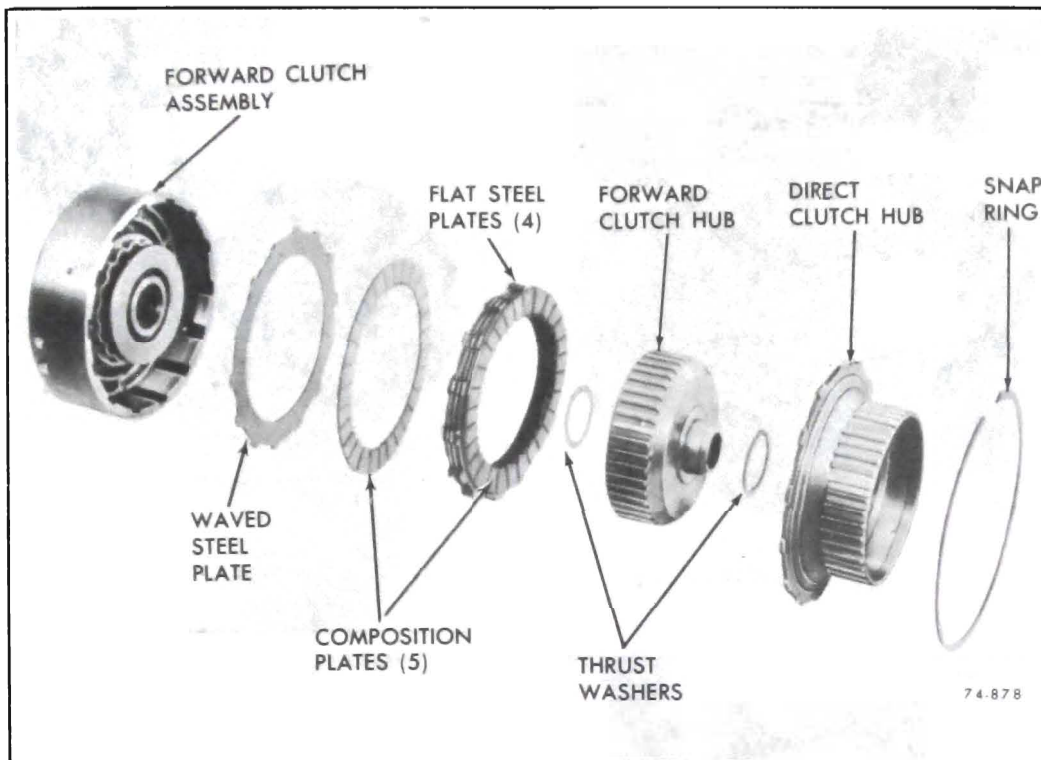

Figure 76-655
B. Wipe steel plates dry and check for heat discoloration. If the surface is smooth and an even color smear is indicated, the plates should be reused. If severe heat spot discoloration or surface scuffing is indicated, the plates must be replaced. See Figure 76-655.